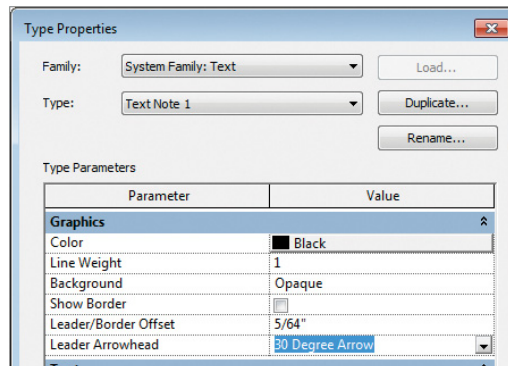

FIGURE 11.32 Adding an arrowhead to the tag
5. Notice that by default the tag has no arrowhead. Select the tag, and choose Edit Type from the Properties palette. Here in the tag's Type Properties dialog, you can assign an arrowhead. Choose 30 Degree Arrow for the Leader Arrowhead property, and click OK (Figure 11.32).